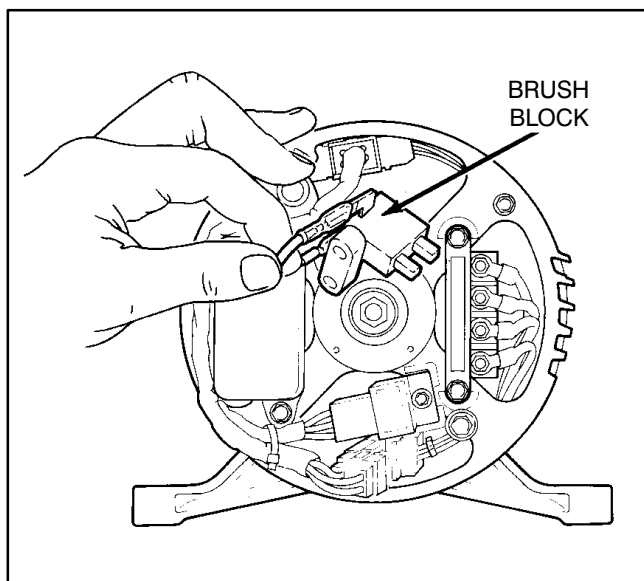

FIGURE 8-7. BRUSH BLOCK
2. On models with AVRs: Remove the brush block assembly (Figure 8-7) by removing the Phillips head mounting screw. Pull brush block off mounting stud and lift to remove.
- On models with automatic voltage regulators: Install brush block onto mounting stud and secure with mounting screw (Figure 8-7).